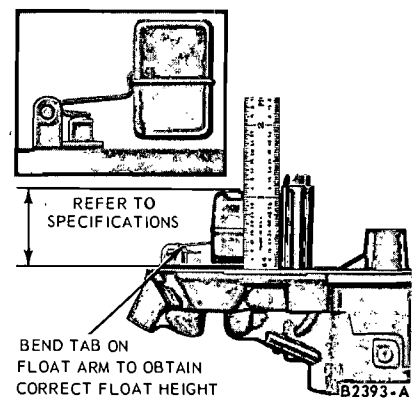

FIG. 5—Fuel Level Float Adjustment — Autolite Model 1100 1-V
2. Measure the distance from the gasket surface of the upper body (air horn) to the top of the float (Fig. 5). If the float adjustment is not within the specified dimension, bend the float arm tab, as necessary, to obtain the specified dimension. **Do not apply pressure on the fuel inlet needle. The viton tip of the fuel inlet needle may be damaged through undue pressure exerted on it and cause an improper fuel level within the bowl.**